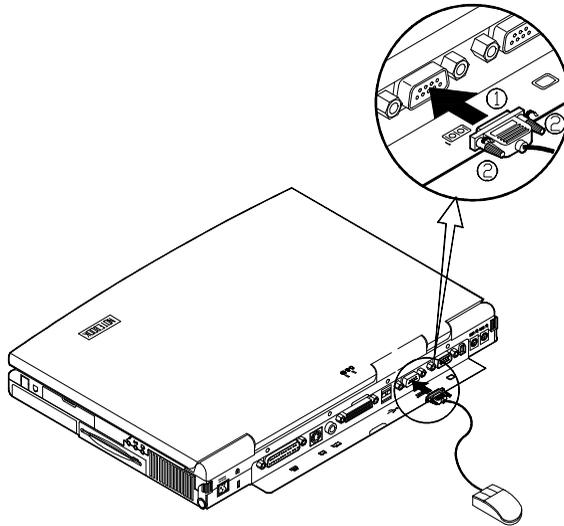

Figure 2-25
- 2** Connect the signal cable to the serial port on the computer (do ①) and tighten the screws of the connector (do ②) (Figure 2-25).